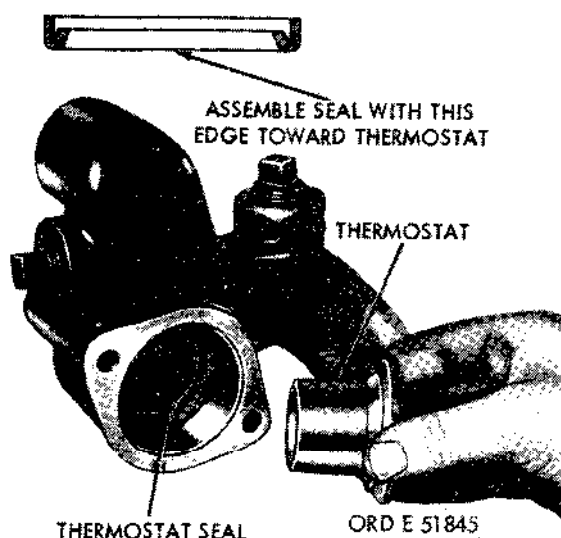

Figure 2-138. Removing thermostat and seal—multifuel models.
- (8) Inspect the thermostat seal. When defects are noted, replace the seal (fig. 2-138).
(1) Check to see if the seal is in position (fig. 2-138) before installing the thermostat in the housing.